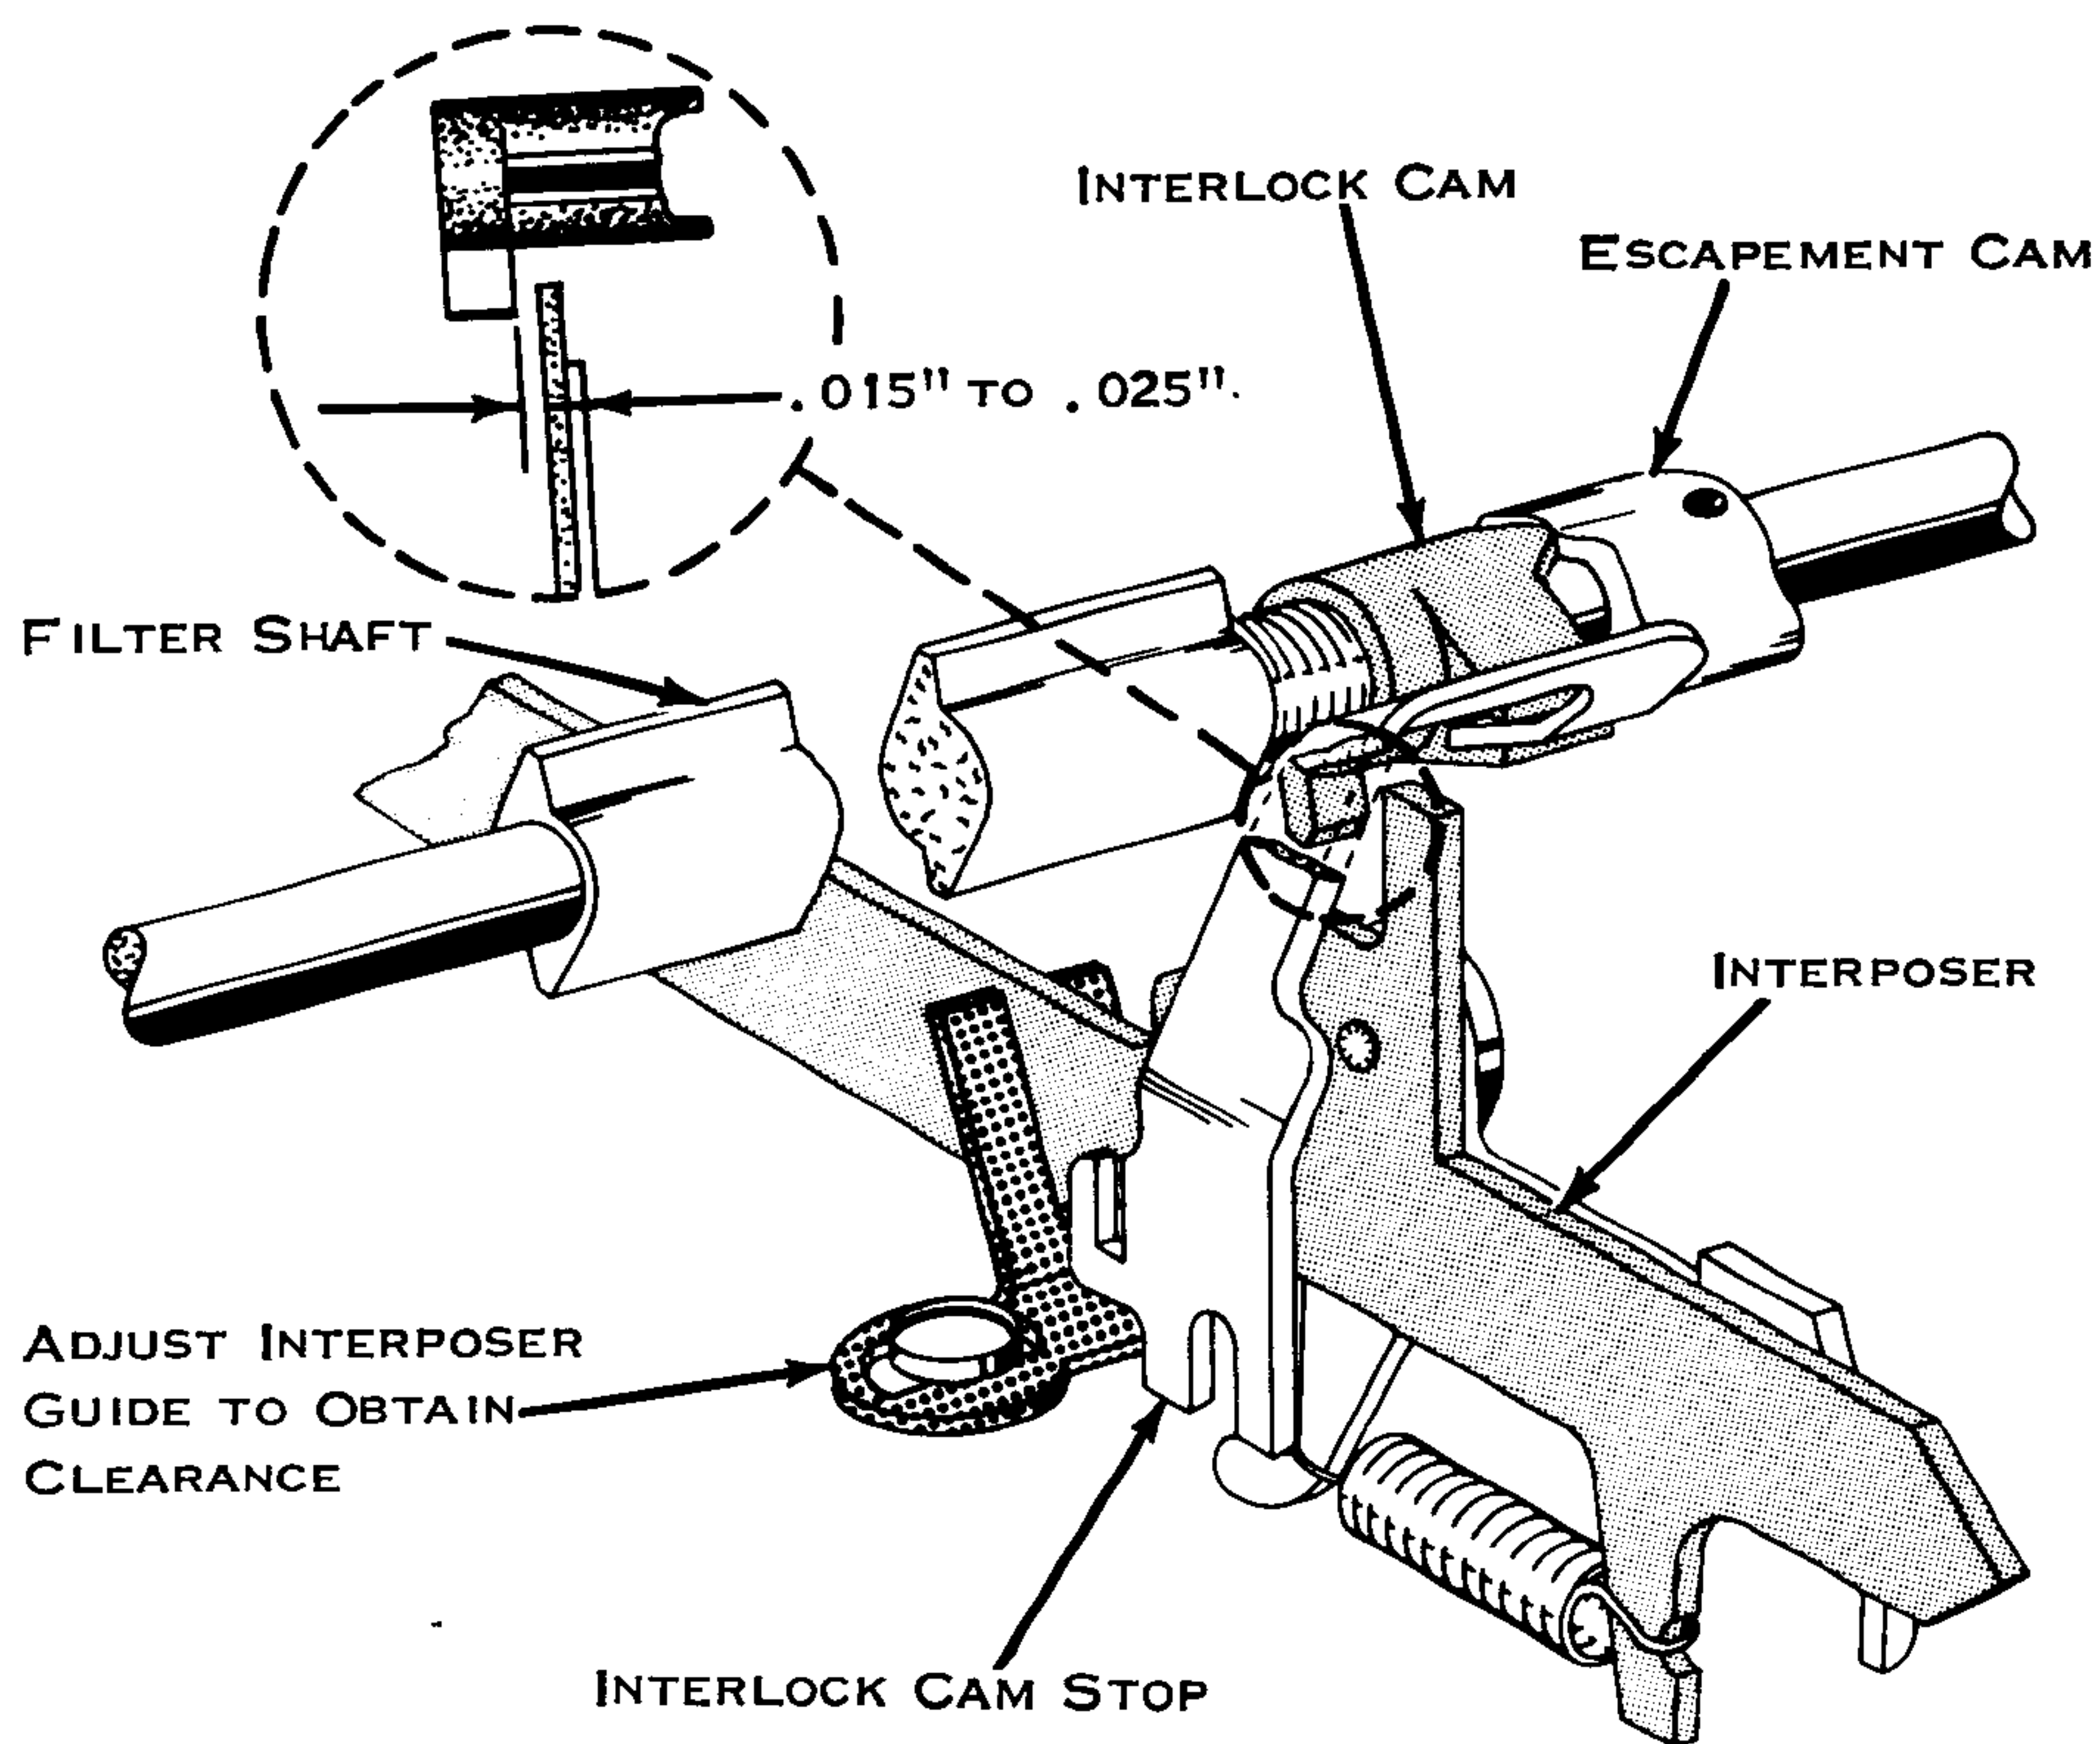

Figure 156. Interposer Guide (Old)
- c. Interposer Guide (Fig. 156) - With the filter shaft at rest, adjust the guide so that a clearance of .015" to .025" exists between the interposer and cam with the interposer released.